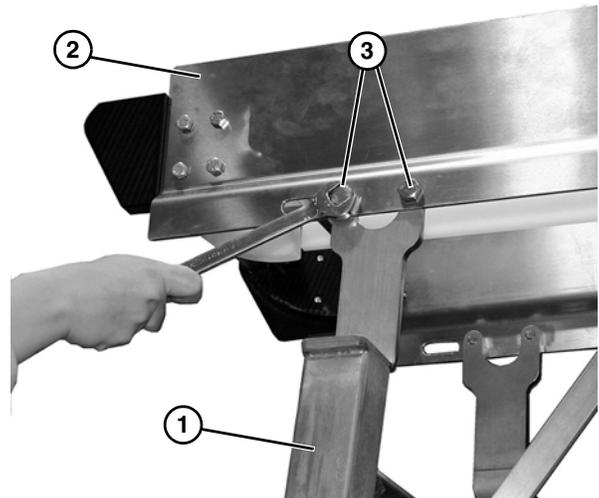

Figure 2
<p>Failure to secure screws (Figure 2, item 3) may cause conveyor sections to drop down causing severe injury.</p> <p>TIGHTEN SCREWS (Figure 2, item 3) AFTER ADJUSTMENT.</p>
2. Attach the stand (**Figure 2, item 1**) to the conveyor (**Figure 2, item 2**) and tighten the four bolts (**Figure 2, item 3**).